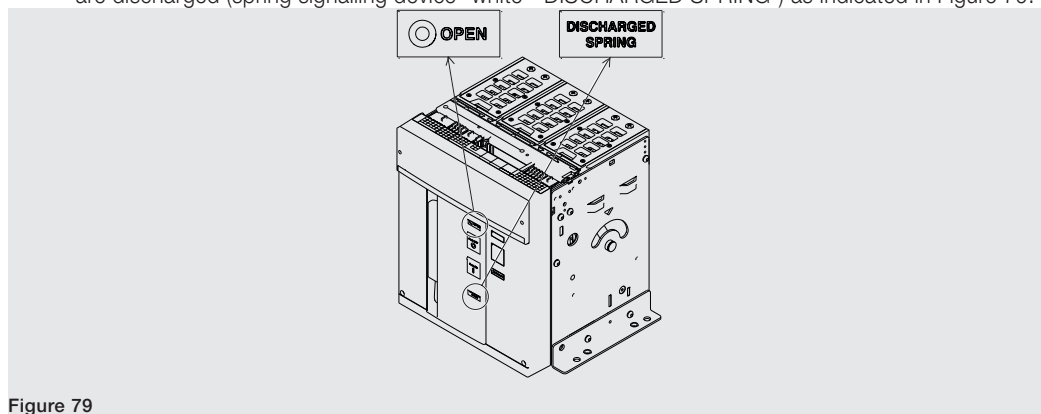

Figure 79
7. Check that the circuit-breaker is open (open / closed indicator "O - OPEN"), and check that the springs are discharged (spring signalling device "white - DISCHARGED SPRING") as indicated in Figure 79.